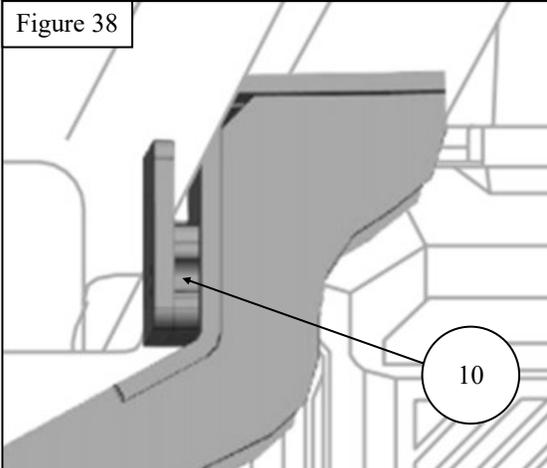

Figure 38
23. Attach the Double Nut Support Brackets (**Items 10**) to the mounting brackets using two M6 Torx combo bolts (**Item 30**). Use **Figures 38 and 39** as reference.